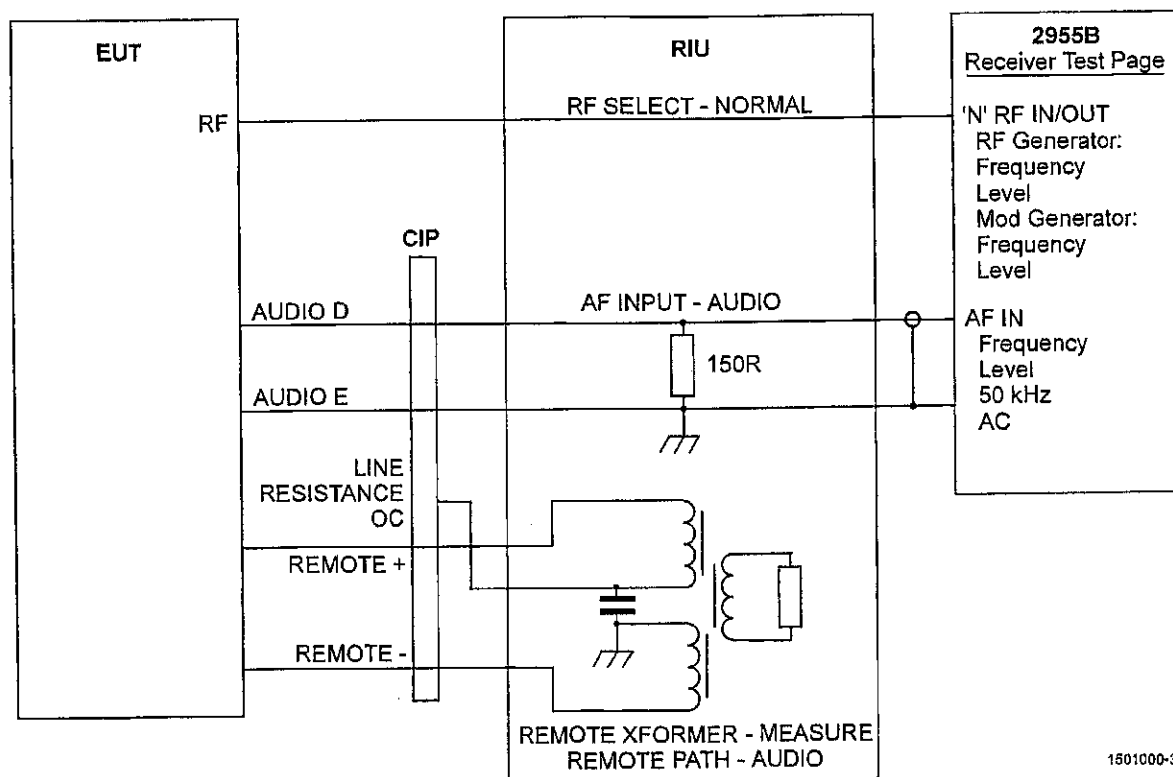

Fig 8 Receiver - Audio Output (351) Skeleton Test Set-Up
10 The equipment configuration and functions set by the Receiver - Audio Output (351) Skeleton Test Set-Up are illustrated in Fig 8.